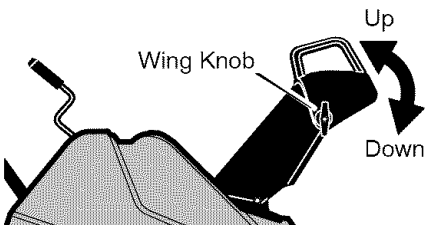

Figure 7
2. Loosen the **wing knob** on the chute deflector and move the deflector to set the distance. Move the deflector (**Up**) for more distance, (**Down**) for less distance. Then tighten the **wing knob** (See Figure 7).